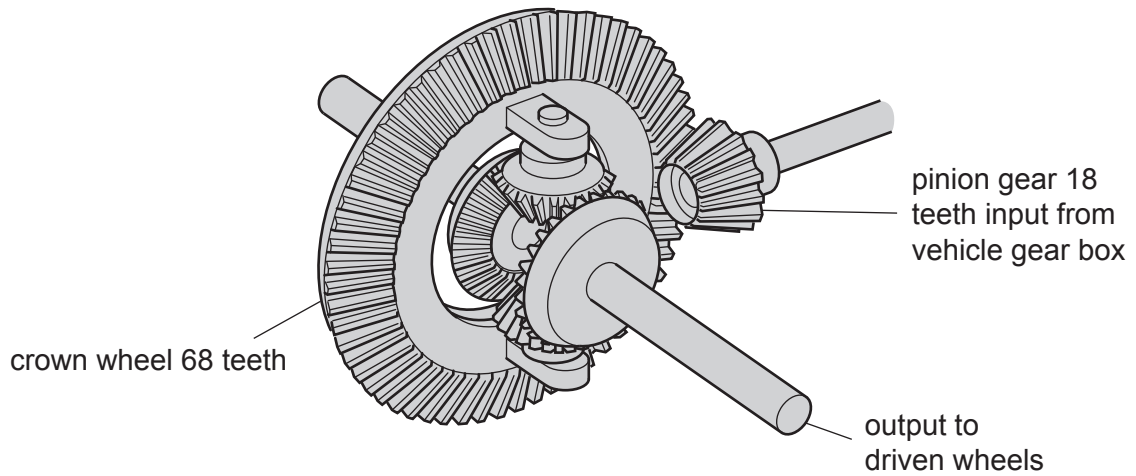

Fig. 3
- (c) Fig. 3 shows a vehicle gear system used to connect the driveshaft from the gearbox to the driven wheels.
- (i) State the type of gears shown in Fig. 3.
- (iii) Calculate the gear ratio of the crown wheel and pinion using the information given in Fig. 3.